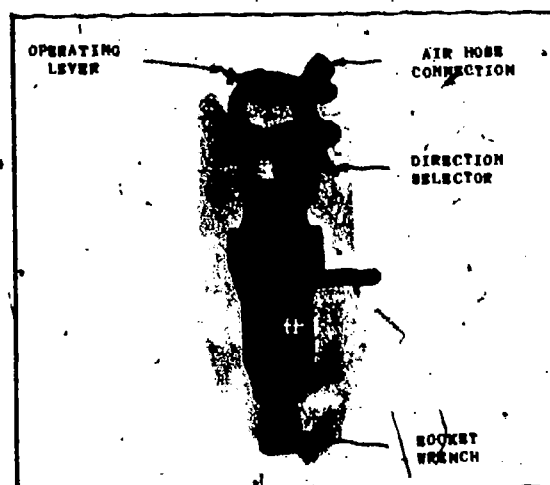

Fig 1-23. Impact wrench.
a. Impact wrench (fig 1-23). The pneumatic impact wrench is the rotary vane-type tool most often used by engineer equipment mechanics. It is used to tighten and loosen nuts and bolts by impact (hammering effect) and rotary motion. The impact unit is synchronized with the rotary motor which turns about 690 to 710 rpm. Insufficient air or lack of lubrication will cause a slow motor speed and slow or erratic impacting. The impact wrench is only one of several rotary-vane-type pneumatic tools which use the same type motor.